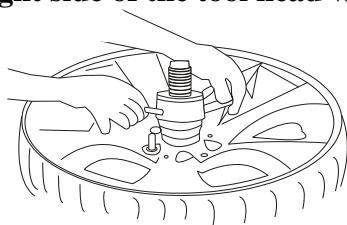

Fig 6
1. Take out the valve core to deflate the tyre. Roll the tyre onto the wheel lift 14. Depress the lift pedal 13 to raise the tire up to the full height by the wheel lifter 14 until the lift cradle goes to 90 degrees, and then slip the tire over the turntable. Depress the lift pedal 13 to lower the wheel lift to the lowest position and align a lug hole on the rim with the alignment pin on the turntable so that the pin goes into the lug hole. Install the quick locking nut to the central post. Tighten it securely. (Fig 6)